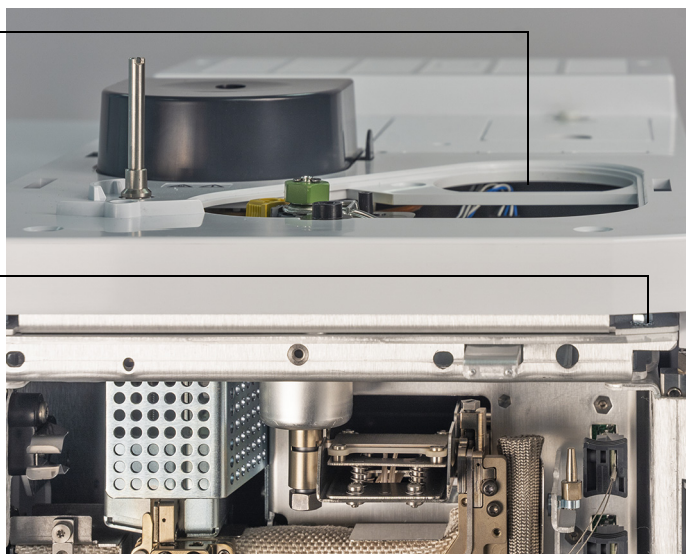

Figure 12. GC inlet cover and compression bolt access plate
- 6 Remove the inlet cover. (See **Figure 12.**)